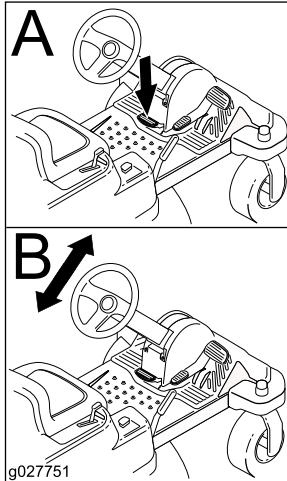

Figure 10
2. Position the steering wheel to the desired position (Figure 10).